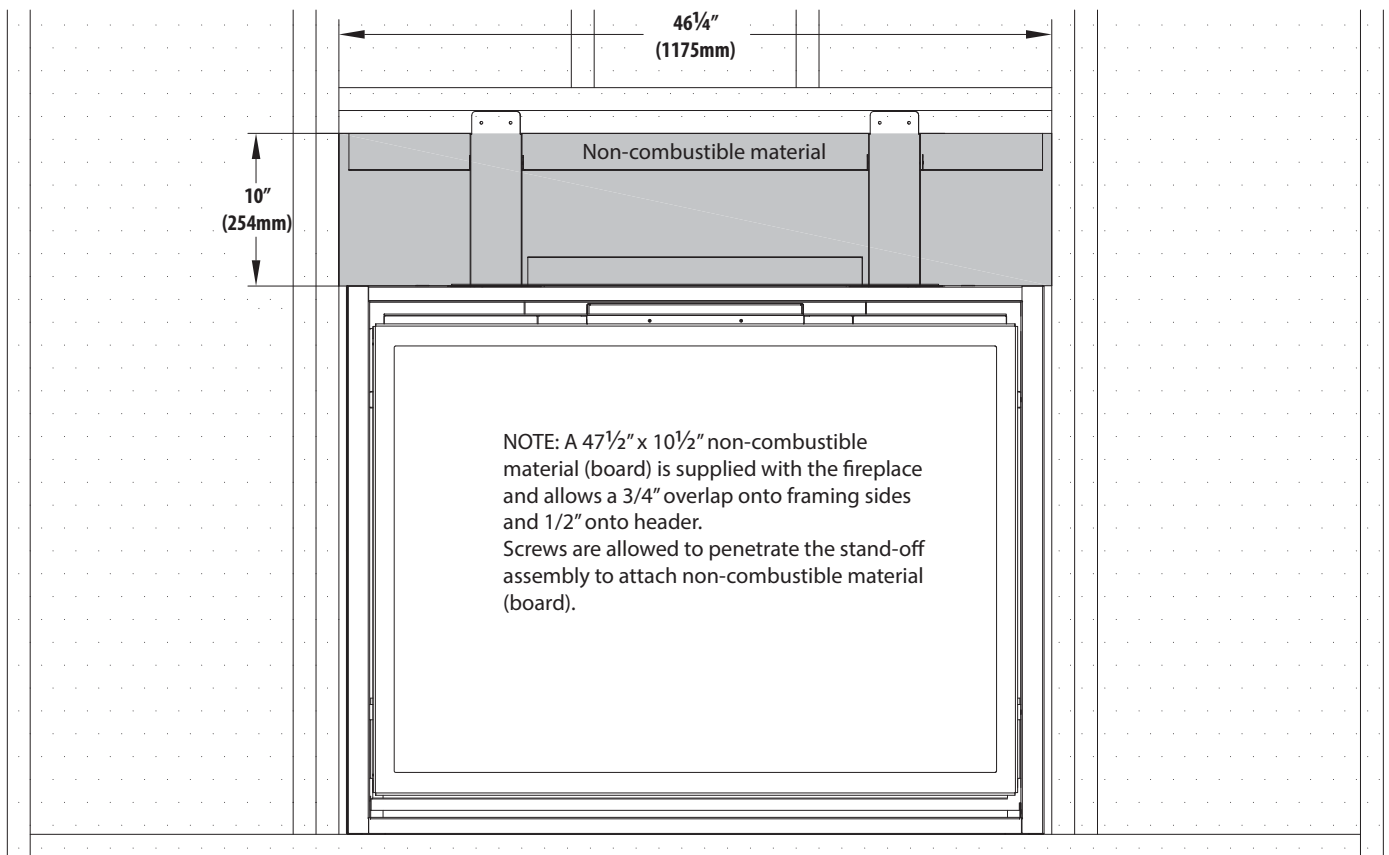

Figure 4.4, Non-Combustible Material
- This appliance is shipped with a 1/2" thick non-combustible material (board) that overlaps the header and the sides of framing. See Figure 4.4 on page 26. Screws are allowed to penetrate the steel framing assembly to attach finishing material.